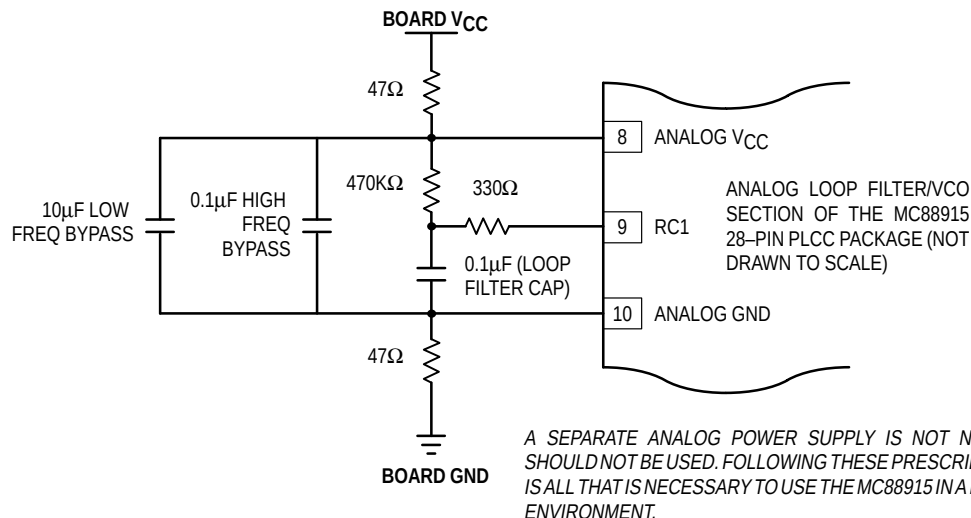

Figure 6. Recommended Loop Filter and Analog Isolation Scheme for the MC88915
1. Figure 6 shows a loop filter and analog isolation scheme which will be effective in most applications. The following guidelines should be followed to ensure stable and jitter-free operation:
If good bypass techniques are used on a board design near components which may cause digital V_{CC} and ground noise, the above described V_{CC} step deviations should not occur at the 88915's digital V_{CC} supply. The purpose of the bypass filtering scheme shown in Figure 6
2. In addition to the bypass capacitors used in the analog filter of Figure 6, there should be a 0.1μF bypass capacitor between each of the other (digital) four V_{CC} pins and the board ground plane. This will reduce output switching noise caused by the 88915 outputs, in addition to reducing potential for noise in the 'analog' section of the chip. These bypass capacitors should also be tied as close to the 88915 package as possible.